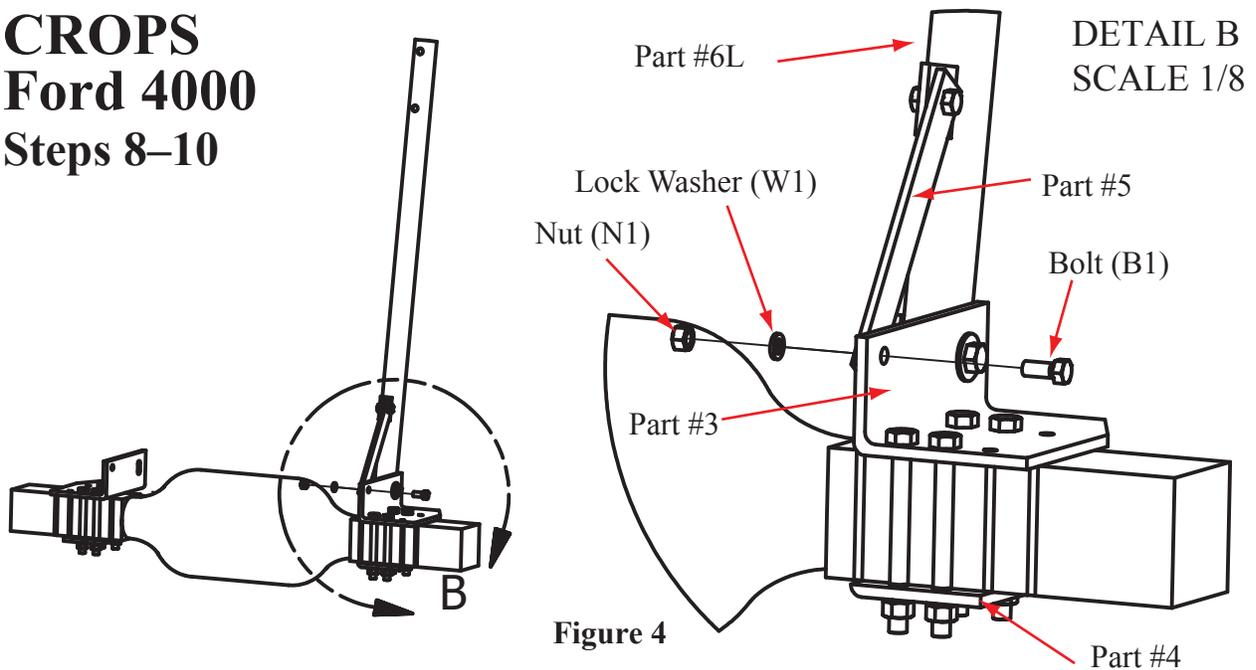

Figure 4
**Step 8.** Attach the vertical tube bolted brace (#5) to the top left axle bracket (#3) with a bolt (B1), lock washer (W1), and a nut (N1). Tighten to a snug fit. (Figure 4)